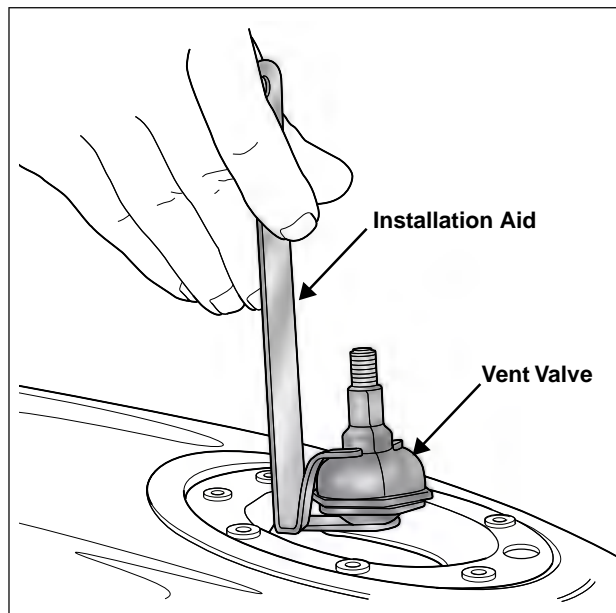

Figure 4-92. Installing Fuel Tank Vent
2. See Figure 4-92. Using the fuel vent valve installation aid, lower the fuel tank vent valve into the fuel tank through the fuel filler neck.